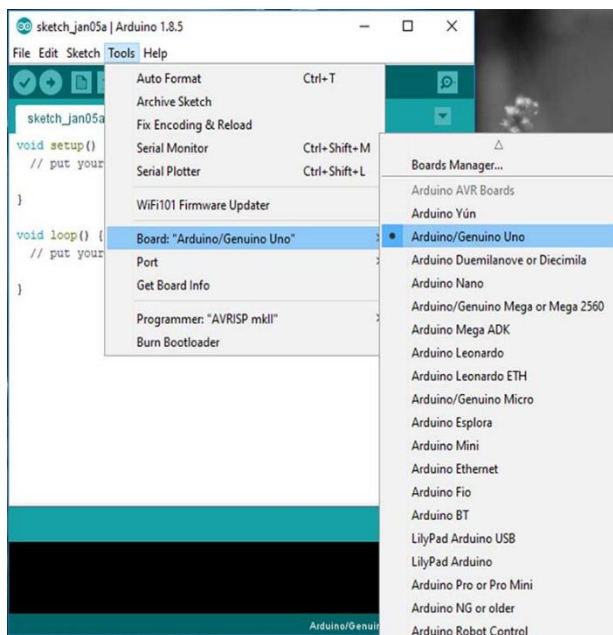

Figure 2
- Select Board: Click Tool and select board as Arduino as shown in figure 2.